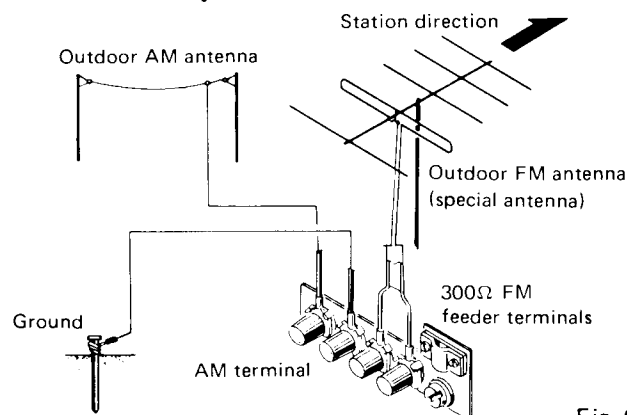

Fig. 6
- Connect antenna feeder wire to the 300Ω antenna terminals of the SX-5580 as shown in Fig. 6.
For optimum AM reception, an outdoor AM antenna using vinyl insulated wire can be erected as shown in Fig. 6.
For maximum safety and noise reduction, connect the GND terminal to an earth ground (Fig. 6).